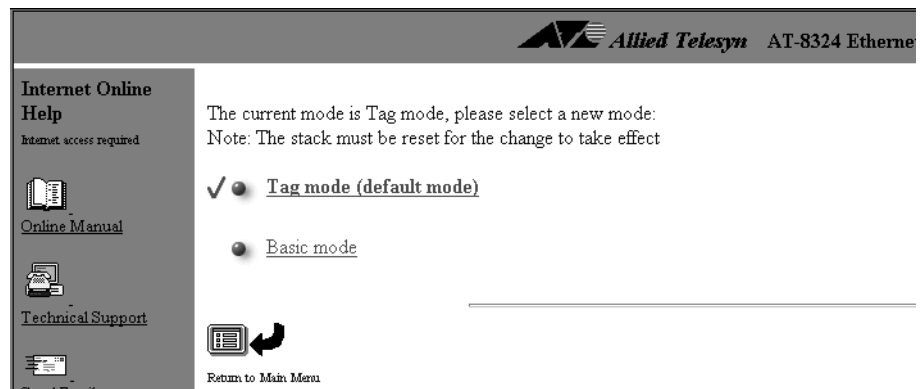

Figure 51 Switch Mode Window
4. The Switch Mode window shown in Figure 51 is displayed.